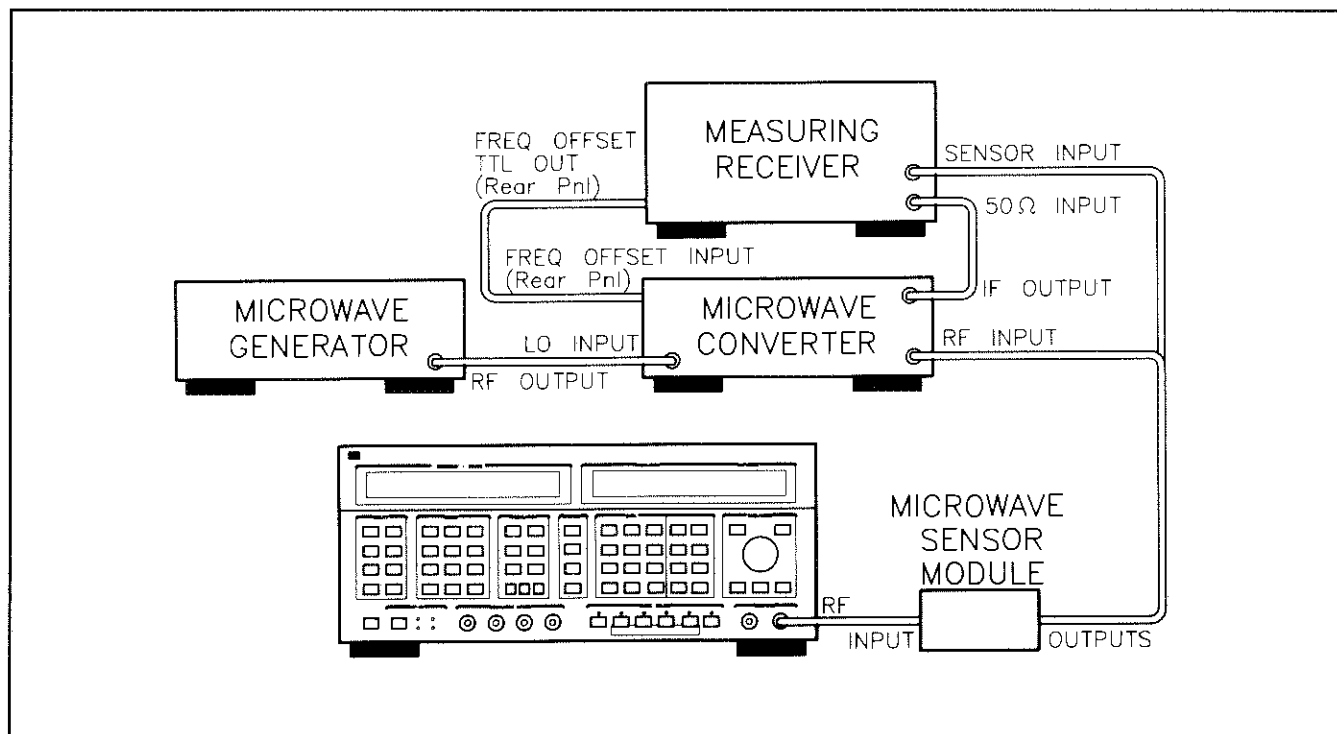

Figure 3-2. Carrier Amplitude (Down-Converted) Test Setup
10. Connect the equipment to the microwave converter as shown in figure 3-2. (Connect the microwave input of the sensor module directly to the Signal Generator's RF output connector.)